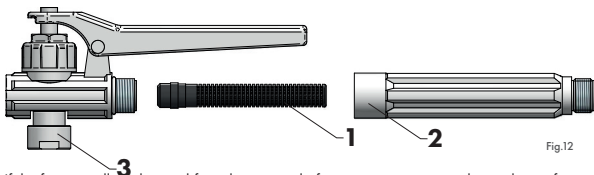

Fig.12
Move the foamer to the work site. Use the piston rod (fig. 7c) to pump the sprayer (around 20 full motions) until the safety valve operates (fig. 7a/pos. 1). As soon as the safety valve opens (fig. 7a/pos. 1), maximum tank pressure has been reached. Monitor the tank pressure on the pressure gauge (fig. 12/pos. 3).
During operation, the pressure in the tank will decrease. Monitor the pressure on the pressure gauge (fig. 12/pos.3). Restore the tank pressure by pumping.
The filter (fig. 12/pos. 1) located on the lance handle (fig. 12/pos. 2) and the foamer insert and nozzle (fig. 10/pos. 1 and 2) located at the lance tip (fig. 1/pos. 1) must be cleaned periodically and before any prolonged downtime.